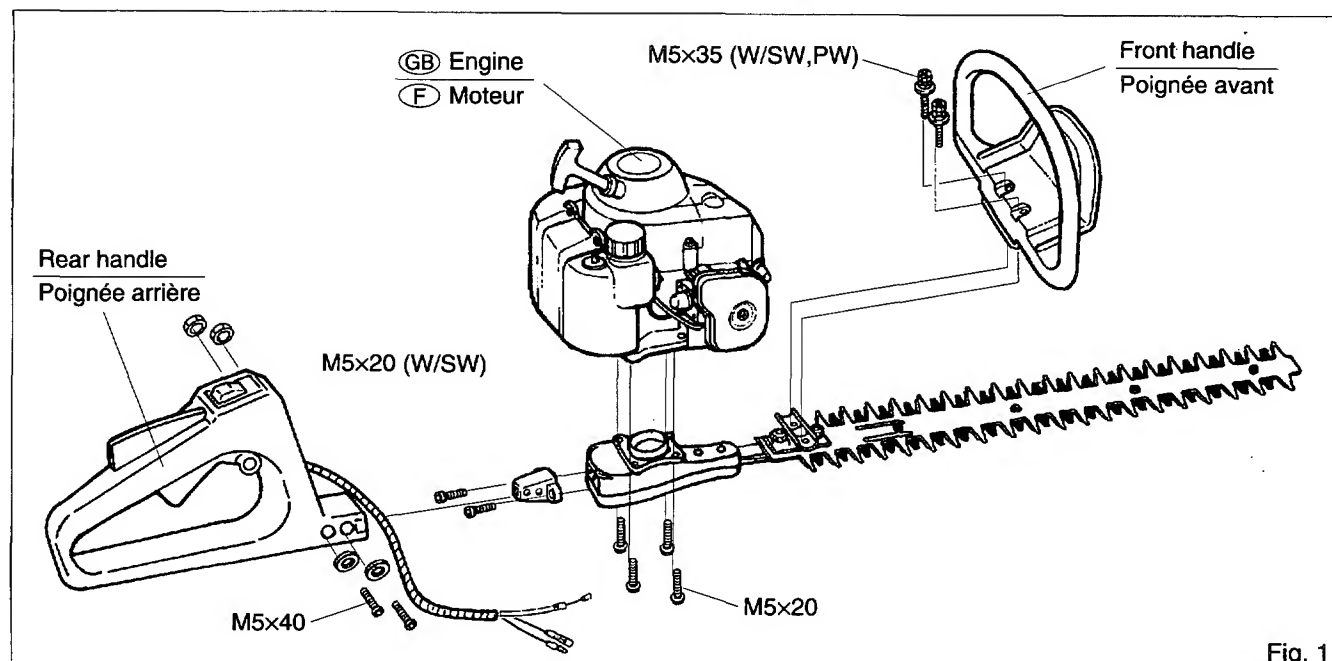

Fig. 1
Installation (Fig. 1, 2, 3)
1. Attach the engine to the unit. (Fig. 1)
2. Attach the front handle to the unit. (Fig. 1)